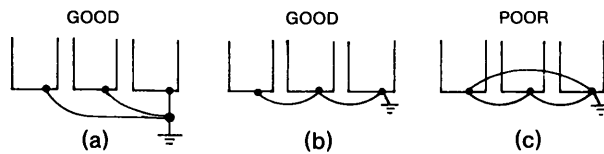

Fig. 9 Grounding of Three VS-616HII Units
- (1) Ground resistance should be 100Ω or less.
- (2) Never ground VS-616HII in common with welding machines, motors, and other large-current electrical equipment, or ground pole. Run the ground lead in a separate conduit from leads for large-current electrical equipment.
- (3) Use ground lead listed in Table 4 and make the length as short as possible.
- (4) Even when VS-616HII is grounded through its mountings such as channel base or steel plate, be sure to ground VS-616HII using the ground terminal ⑤.
- (5) Where several VS-616HII units are used side by side, all the units should preferably be grounded directly to the ground poles. However, connecting all the ground terminals of VS-616HII in parallel, and ground only one of VS-616HII to the ground pole is also permissible (Fig. 9). However, do not form a loop with the ground leads.